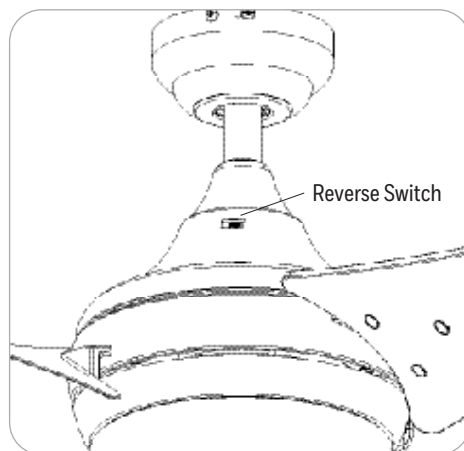

Figure 7.2
- Using a ceiling fan will allow you to raise your thermostat setting in summer and lower your thermostat setting in winter without feeling a difference in your comfort (Figure 7.2).